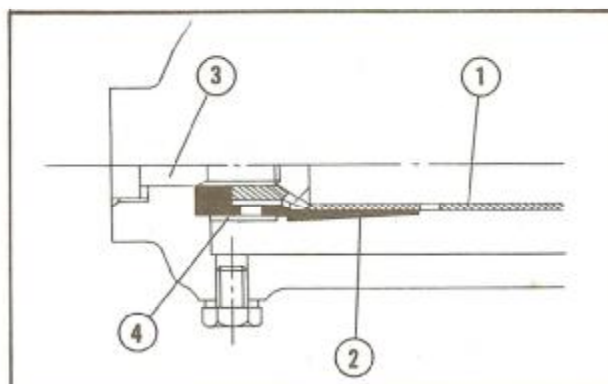

Fig. 4-6 (1) Fork piston
1. Apply locking sealant to the threads of the Allen head screw. Install the oil lock piece, fork piston and check valve, and tighten with the Allen head screw as shown in Fig. 4-6.